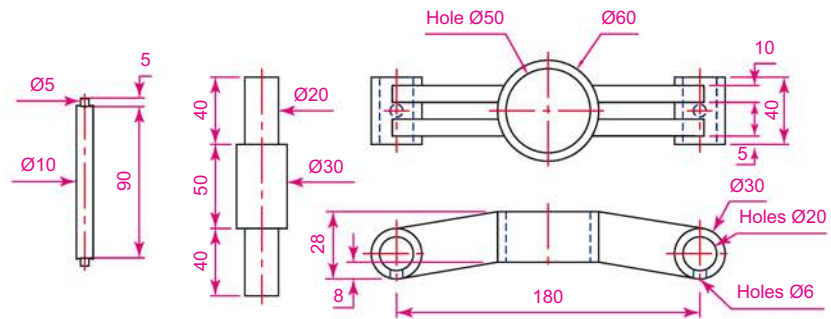

Fig. 16.52 Raster image in a drawing – drawings into which file is to be inserted
This example shows the raster file **Fig05.bmp** of the 3D model constructed to the details given in the drawing Fig. 16.52.
1. Construct the 3D model to the shapes and sizes given in Fig. 16.52 working in four layers each of a different colour.
9. Open the orthographic projection drawing Fig. 16.52 in AutoCAD.